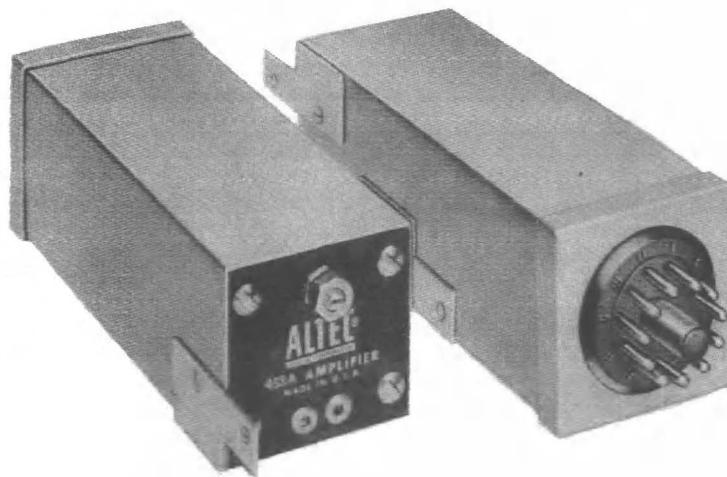

Fig. 1 — ALTEC 453 Amplifier
1.06 The 447A, 449A, 453A (Fig. 1), 455A, and 450 are designed to operate on 24 volts DC. The 457A is designed to operate on 48 volts DC